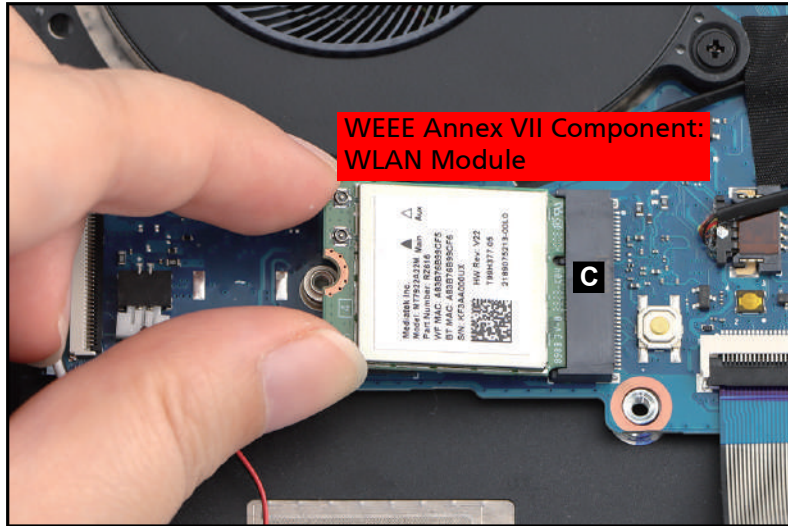

Figure 3-26. WLAN Module Removal
4. Disconnect the WLAN module from the mainboard connector (C) (Figure 3-26). Then remove the WLAN module.